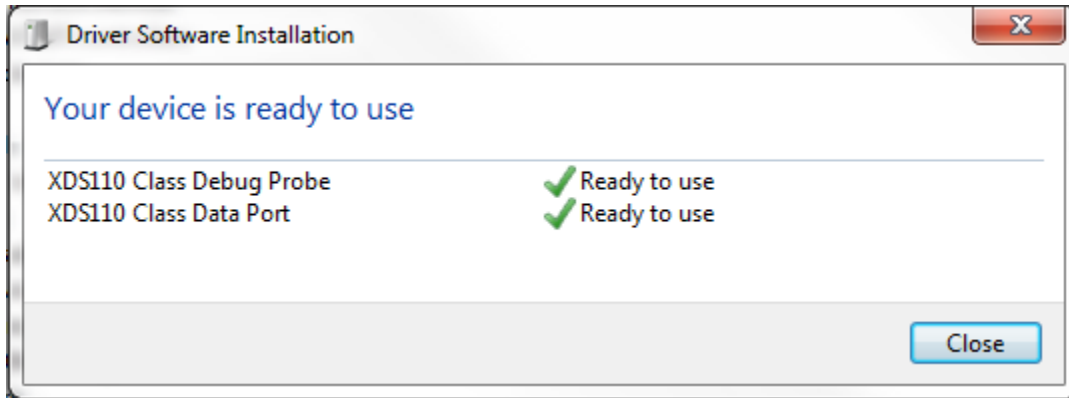

Figure 24, Debugger Driver Installation.
- b. Plug the Debugger Dev Pack into a USB port on your computer Via a B-Male Micro USB to an A-Male USB cable and wait for the driver to finish installing. (Figure 24)